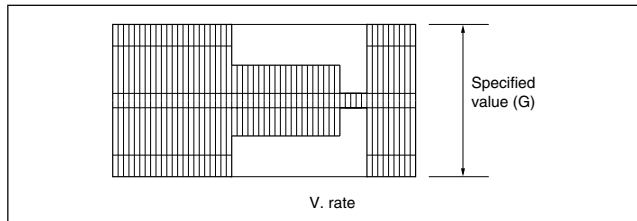

Fig. 3-3-4b REC color (colour) level
- Apply the external trigger signal to D.FF (E) to observe the PB color (colour) waveform at the measuring point (D2).
- (9) Adjust with the channel buttons (+, -) on the VCR (or on the remote controller) so that the higher level channel becomes the specified value (G) of the note "B" level as shown in Fig. 3-3-4b. (Adjust before recording, then confirm it by playing back.)
- (10) After adjustment, record the signal (A3) then playing it back again. At this time, confirm that there is no inverting phenomenon or noise appearing on the playback screen.
- (11) Release the EVR mode of the VCR by transmitting the code (F1) from the Jig RCU again. (When the EVR mode is released, the adjusted data is memorized.)
- (12) Repeat steps (3) to (11) in the mode (B2).
- **After adjusting, always perform the confirmation and re-adjustment of the item 3.4.1.**